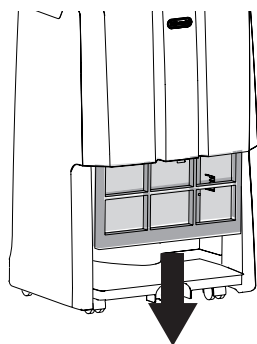

fig. 7
- Remove the air filter by pulling downwards (Fig. 7).